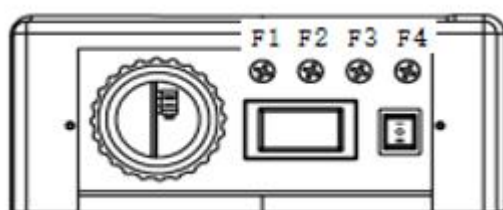

Figure 6. QL2028 floor box
6.1.2 Floor box fuse, See Figure 6.